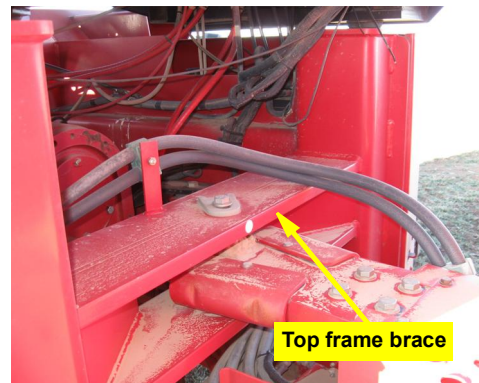

Figure 2b: Top frame brace
- b. Locate the top frame brace near the articulation point of the tractor (Figure 2b).